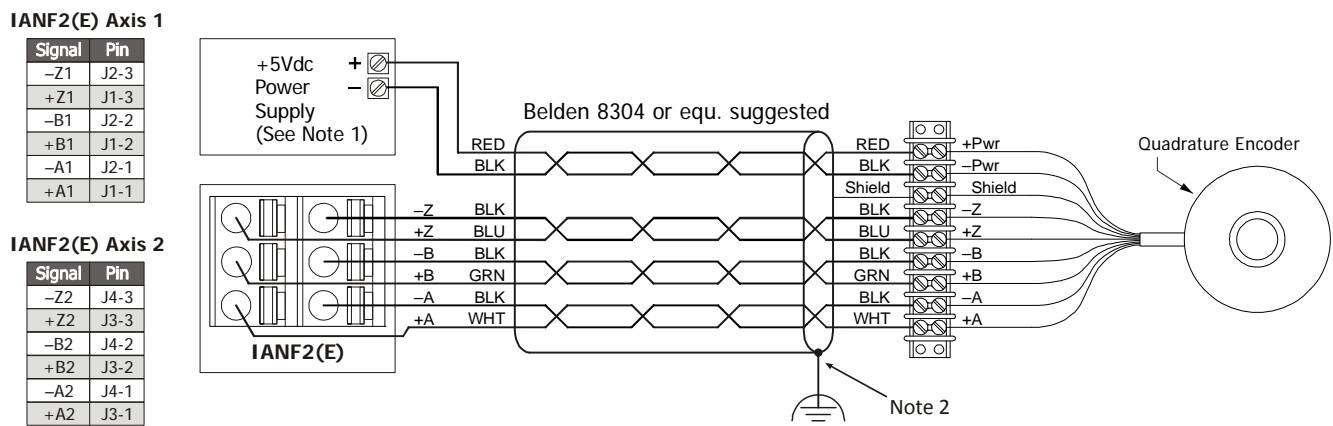

Figure T1.10 Differential Encoder Wiring
The encoder inputs on the IANF2(E) accept 5Vdc differential signals from a quadrature incremental encoder. Figure T1.10 below shows a typical encoder installation.